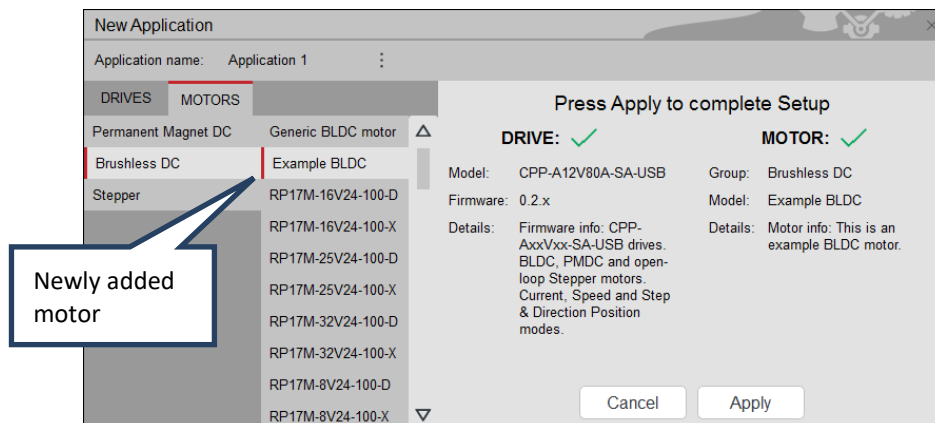

Figure 65: New Motor displayed while creating new project
- If the motor was successfully entered into the database, it will be displayed in alphabetical order in the *New Application* window as shown in Figure 65.